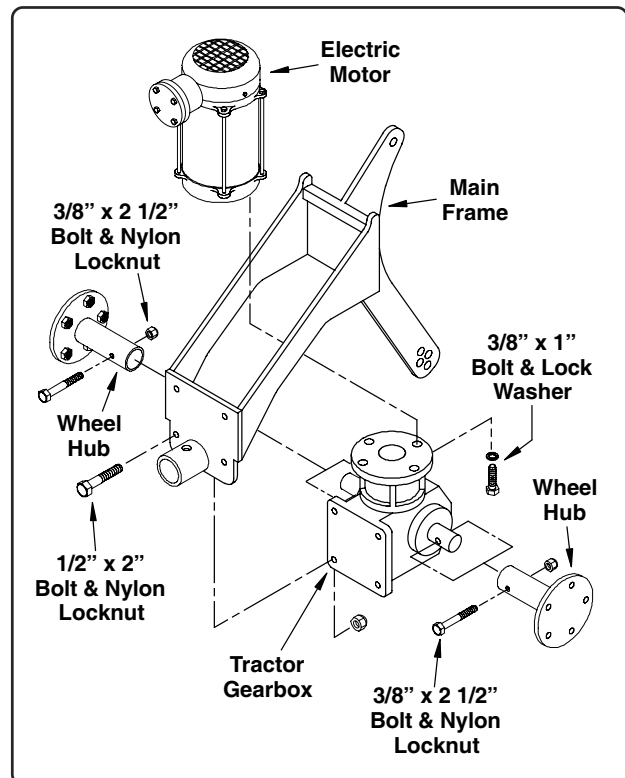

Fig. 16
- Mount the tractor gearbox to the main frame as shown in Fig. 16. Secure using four (4) 1/2" x 2" bolts and nylon locknuts.
- Mount the electric motor to the top of the gearbox and secure using four (4) 3/8" x 1" bolts and lock washers (the bolts will screw into the bottom side of the motor, See Fig. 16).
- Slide a wheel hub onto each of the shafts located on the sides of the gearbox. Secure each hub with one (1) 3/8" x 2 1/2" bolt and nylon locknut.